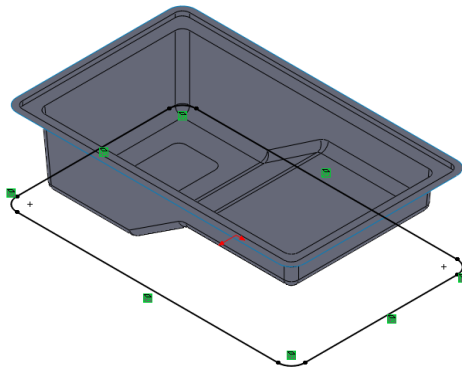

Figure 21-41 Sketch for the cavity
9. Create the sketch on the newly created plane for creating the solid cavity with help of the **Convert Entities** tool, as shown in Figure 21-41.